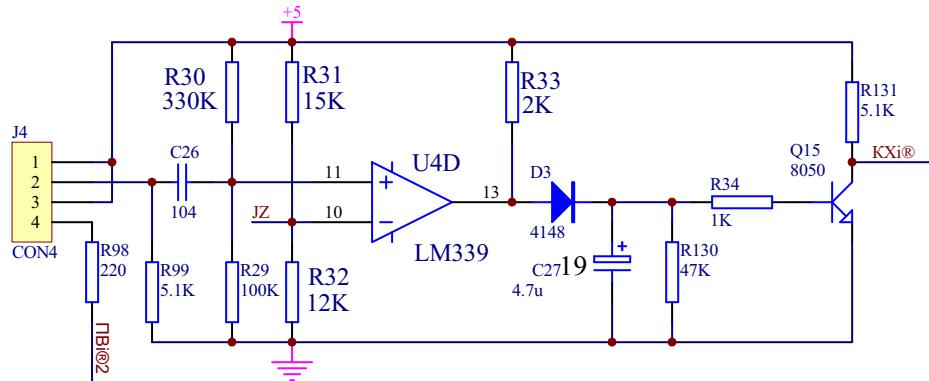

Fig.23 Stacker Sensor Circuit Diagram
### (2) PRO85UM, PRO85UM/S Circuit (Fig.23)